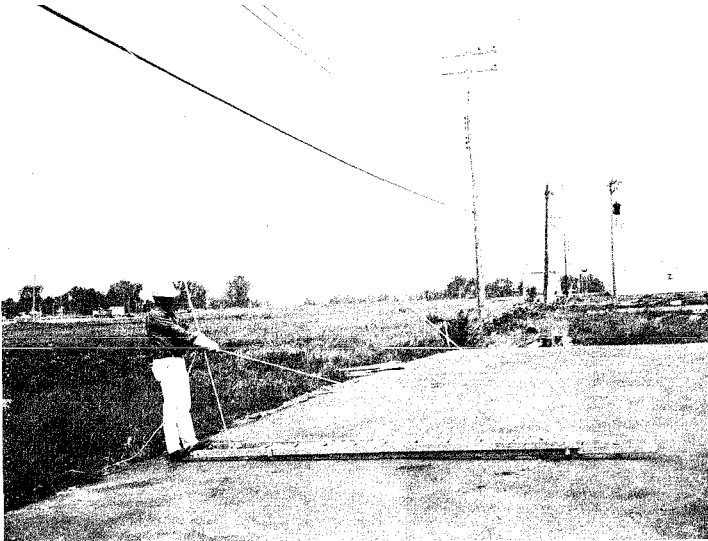

Fig. 22 — Preparing to Raise Extension Ladder
7.06 Carry the free end of the handline to the base of the ladder and stand with balls of the feet on each side rail to block movement of the ladder base to the rear (Fig. 22). When raising the ladder parallel to the strand removing the left foot from the side rail will make the ladder swing to the right. Removing the right foot will make it swing to the left.